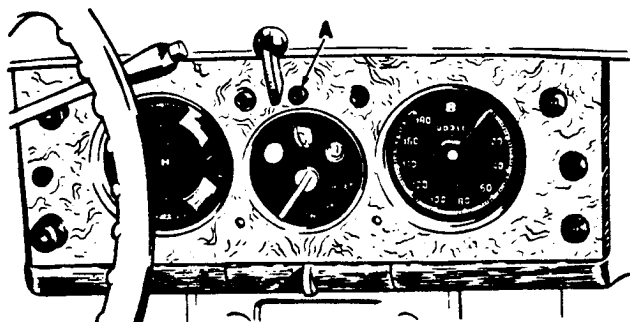
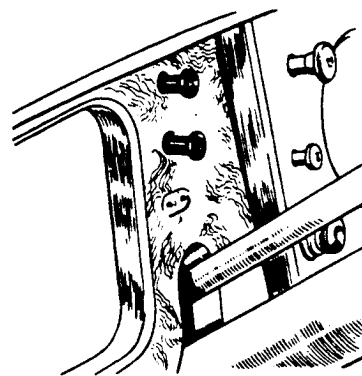

Fig. 10.
Fig. 11.
4. Fit the pass lamp switch in the centre of the facia board as shown at 'A' in Fig. 10. Drill as indicated if the hole does not already exist. If this position is already occupied, the switch can be fitted behind the steering column as shown in Fig. 11.